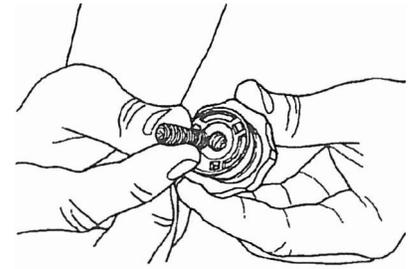

Fig. A-8
9. Attach the cup point setscrew (45) to the follower adjusting knob (44) with the cup point facing out, as shown in Fig. A-8.